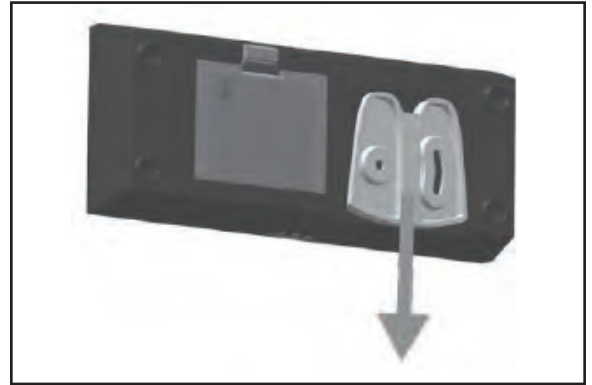

Fig.28
- Detach the adapter from the body of the remote control wall transmitter. (Fig. 28)